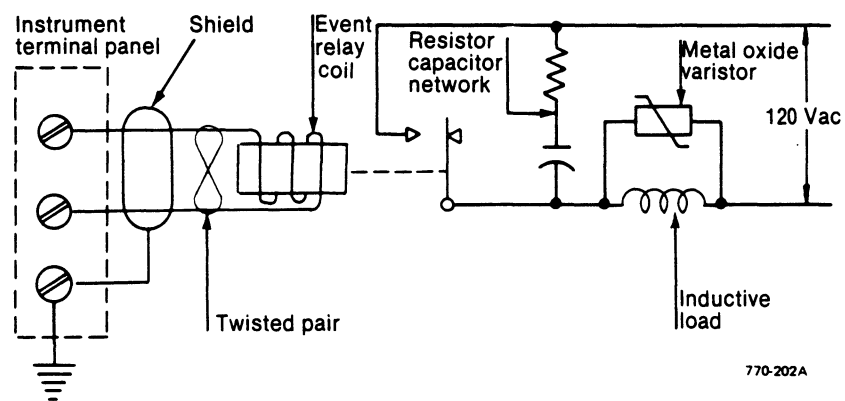

Figure 2-2—Switching an inductive load
- If an event relay is used to switch an inductive load, connect a resistor capacitor network (Table 2-1) across the contacts, and a metal-oxide varistor (Table 2-1) across the wires to the load (Figure 2-2, 2-3).